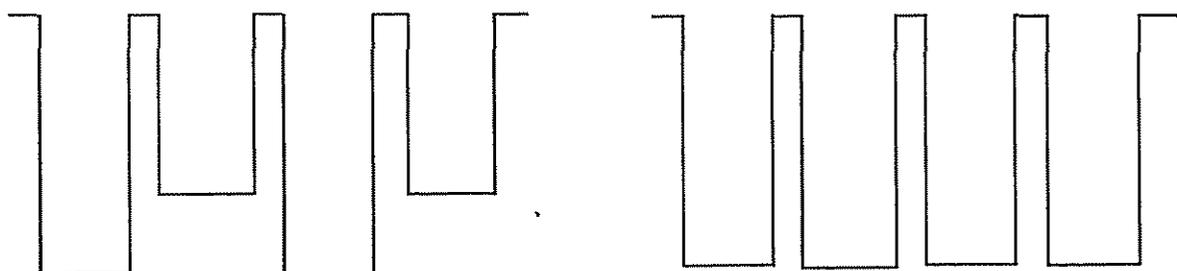

Fig 4.10
5. Change the scope sensitivity to 0.02V/div. Keep  $SW_A$  closed and close  $SW_V$ ; adjust  $R_{44}$  to bring both steps equal as in fig 4.10.